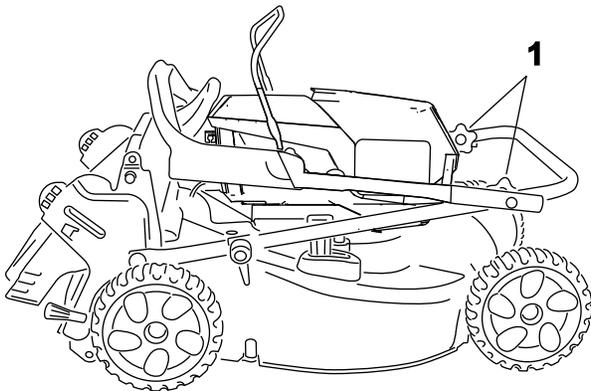

Figure 21
3. Rotate the entire handle forward (Figure 21).